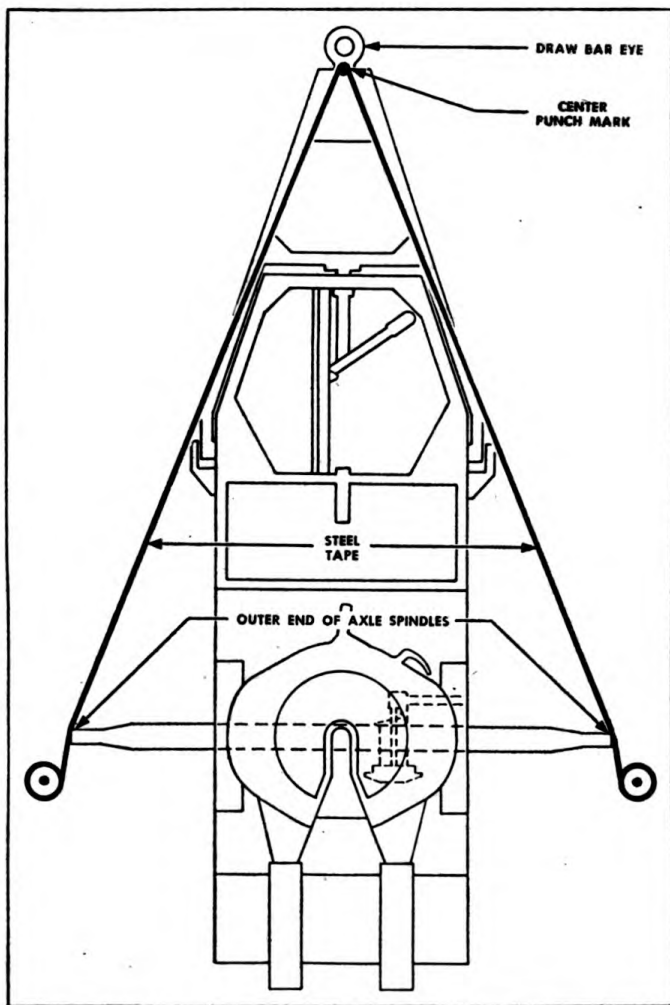

FIGURE 18. AXLE ALIGNMENT—DOLLY.
7. AXLE ALIGNMENT—DOLLY (Fig. 18).—*a.* Place drawbar in the locked position.